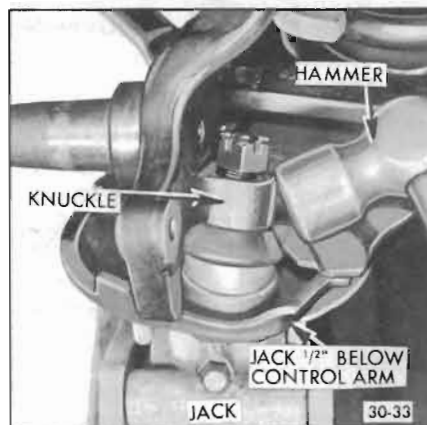

Figure 30-33—Separating Steering Knuckle From Ball Joint
3. Loosen, but do not remove nut. Force of chassis spring will be tending to disengage ball joint tapered stud from steering knuckle. Rap knuckle sharply in area of tapered stud to disengage stud from knuckle. See Figure 30-33.
9. Rap the steering knuckle in the area of the stud to separate the stud from the knuckle. See Figure 30-33.